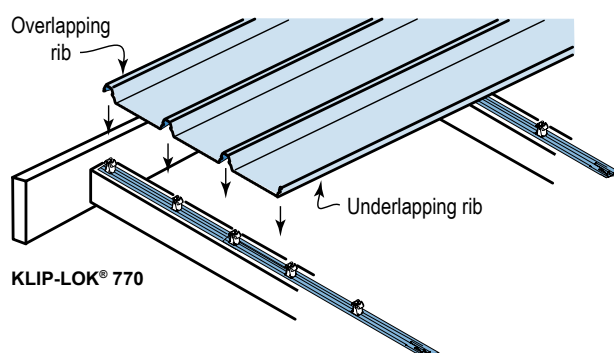

Figure 5
9. Engage the sheet with clips using vertical foot pressure on all the ribs over each clip (Refer figure 5).
long spans (Refer figure 5).